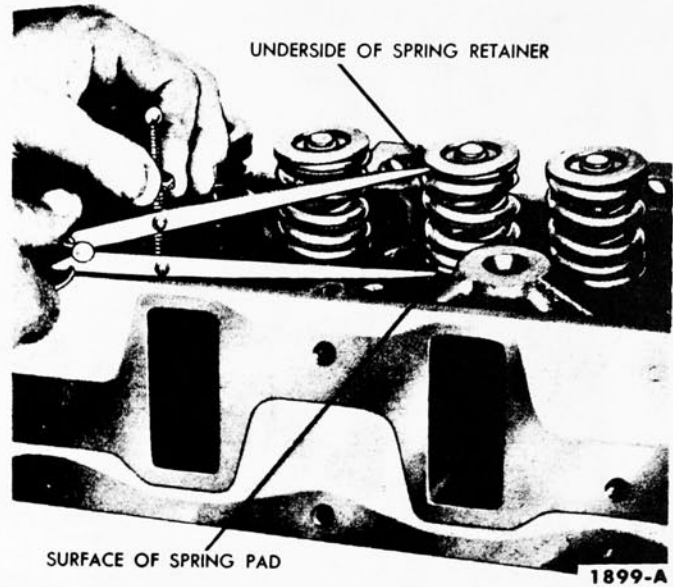

FIG. 21—Valve Spring Assembled Height
4. Measure the assembled height of the valve spring from the surface of the cylinder head spring pad to the underside of the spring retainer with dividers (Fig. 21).